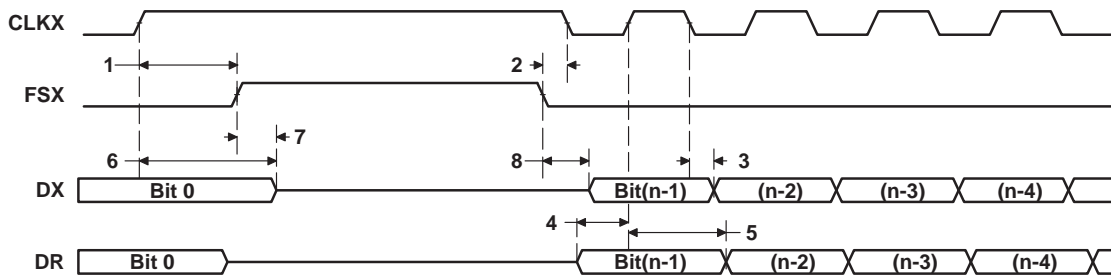

Figure 36. McBSP Timing as SPI Master or Slave: CLKSTP = 10b, CLKXP = 1
**timing requirements for McBSP as SPI master or slave: CLKSTP = 10b, CLKXP = 1†‡ (see Figure 36) ('C6201)**
**switching characteristics for McBSP as SPI master or slave: CLKSTP = 10b, CLKXP = 1†‡ (see Figure 36) ('C6201)**
timing requirements for McBSP as SPI master or slave: CLKSTP = 10b, CLKXP = 1†‡ (see Figure 36) ('C6201B)
switching characteristics for McBSP as SPI master or slave: CLKSTP = 10b, CLKXP = 1†‡ (see Figure 36) ('C6201B)